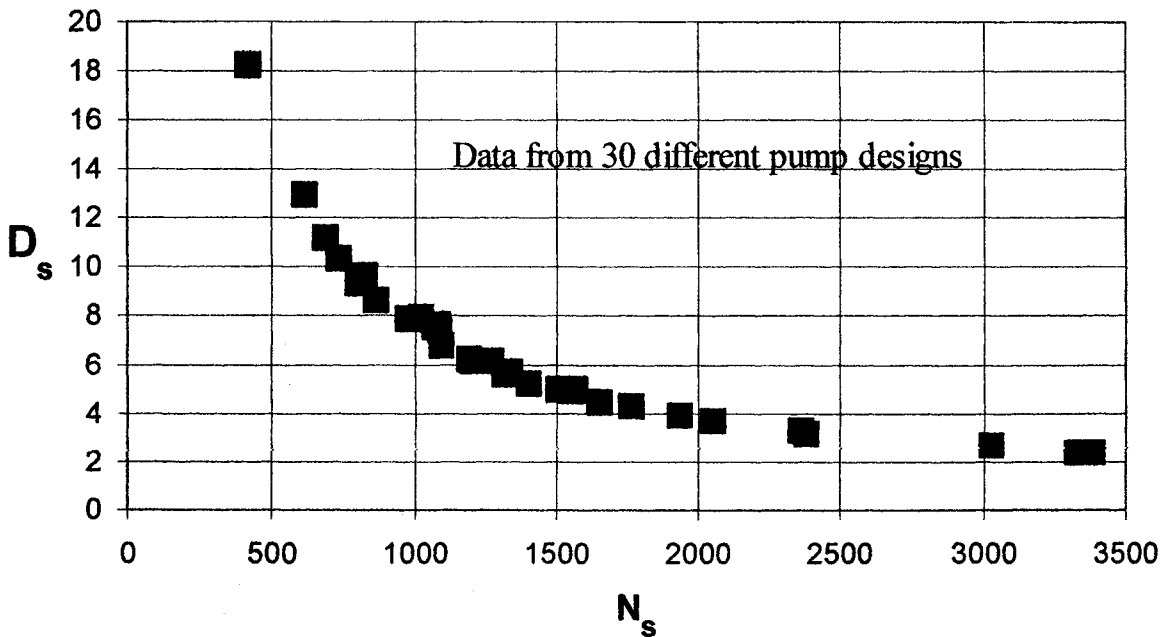

Fig. P11.46
**11.46** The answer to Prob. 11.40 is that the dimensionless “specific diameter” takes the form  $D_s = D(gH^*)^{1/4}/Q^{*1/2}$ , evaluated at the BEP. Data collected by the writer for 30 different pumps indicates, in Fig. P11.46, that  $D_s$  correlates well with specific speed  $N_s$ . Use this figure to estimate the appropriate impeller diameter for a pump which delivers 20,000 gal/min of water and a head of 400 ft running at 1200 rev/min. Suggest a curve-fit formula to the data (*Hint: a hyperbola*).
$$\text{Figure P11.46: } D_s \approx \frac{\text{Const}}{N_s}, \text{ where Const} \approx 7800 \pm 300 \text{ Ans.}$$